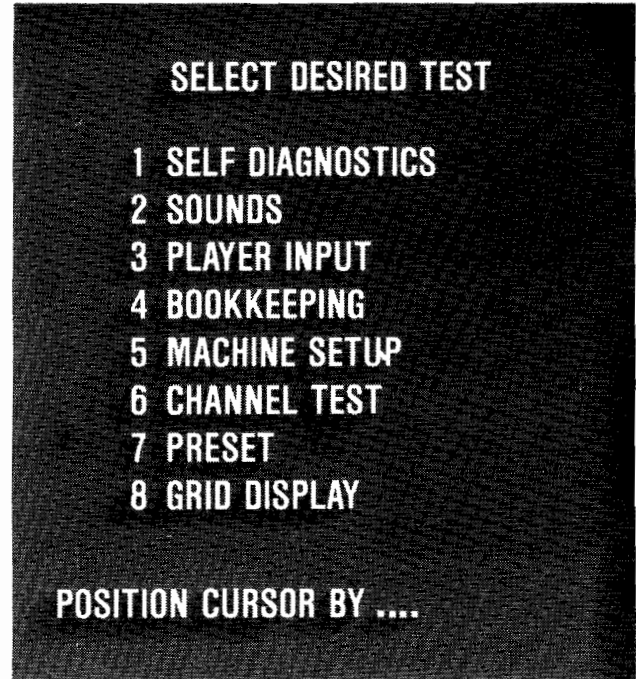

Figure 2-1 Self-Test — Menu
The Self-Test mode has eight (8) major categories as illustrated by Figure 2-1.